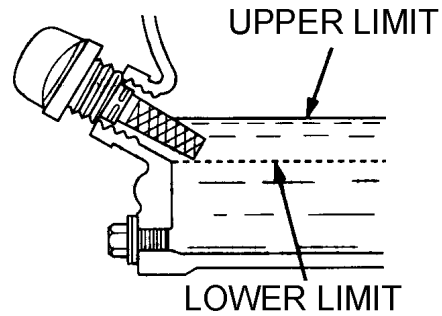

Figure 7. Engine Oil Dipstick(Oil Level)
4. If the oil level is low (Figure 7), fill to the edge of the oil filler hole with the recommended oil type (Table 4). Maximum oil capacity is .63 quarts (0.6 liters).